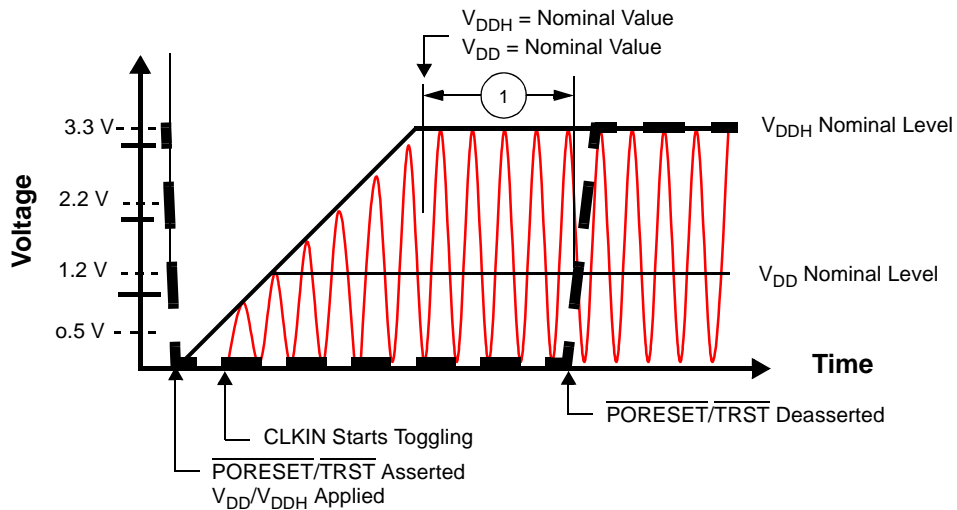

Figure 6. Start-Up Sequence:  $V_{DD}$  and  $V_{DDH}$  Raised Together
- CLKIN should start toggling at least 16 cycles (starting after  $V_{DDH}$  reaches its nominal level) before  $\overline{PORESET}$  deassertion to guarantee correct device operation (see **Figure 6** and **Figure 7**).
The following figures show acceptable start-up sequence examples. **Figure 6** shows a sequence in which  $V_{DD}$  and  $V_{DDH}$  are raised together. **Figure 7** shows a sequence in which  $V_{DDH}$  is raised after  $V_{DD}$  and CLKIN begins to toggle as  $V_{DDH}$  rises.